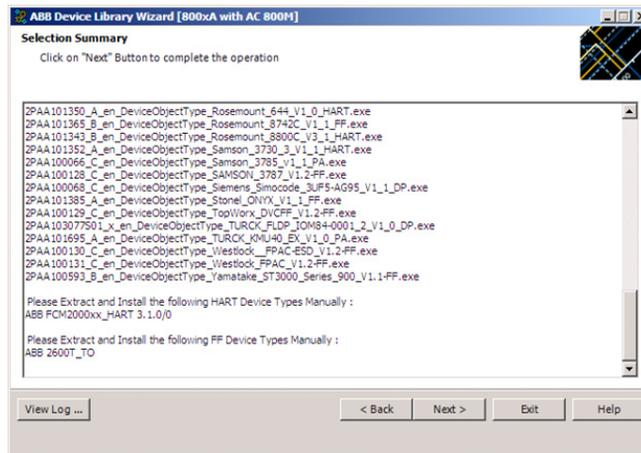

Figure 28. List of Files to be Manually Installed
- There may be some Object Types that are either customer created, or are the latest Device Types downloaded from ABB SolutionsBank. These will not be available on the DVDs. The Device Library Wizard will prepare a list for these Device Types (Figure 28). Install these Device Types manually.